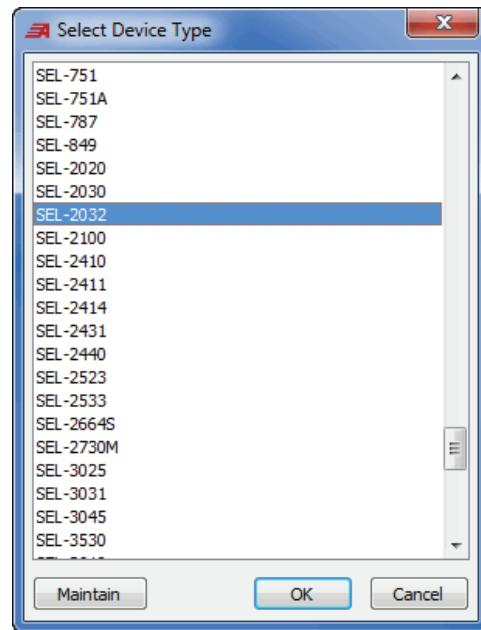

Figure 44 Device Selection Window
- Step 6. Scroll down, select **SEL-2032** in the **Select Device Type** window of *Figure 44*, and select **OK**.